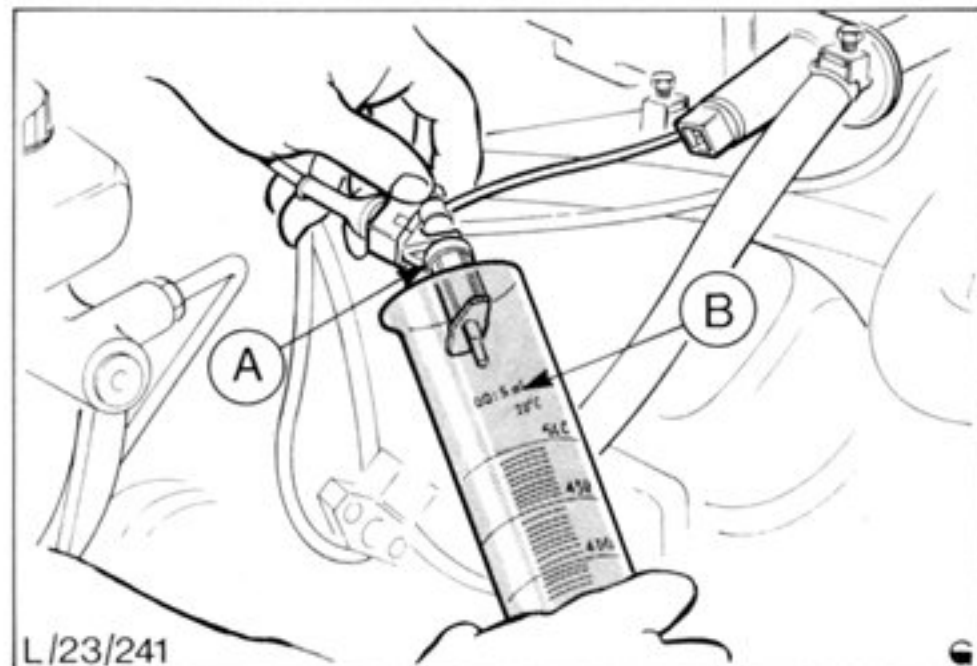

Fig.64. Cold start valve spray check operation.
- (iii) Hold valve in a glass jar and turn ignition 'ON' for two to three seconds, Fig.64. Fuel should now spray from valve.